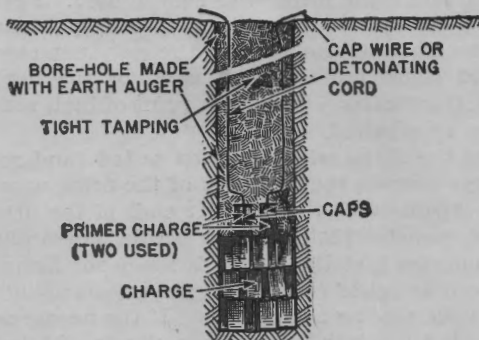

FIGURE 103.—Bore hole loaded to blow crater.
(2) After the firing wire has been tested (and repaired, if necessary) connect the free ends of the firing wire to the cap wires. Again touch the exploder ends of the firing wire to the galvanometer posts. If the needle moves along the scale, it indicates that the circuit is ready for firing if due care has been exercised to insure against shortcircuiting the cap wires while placing the charges. If the needle does not move, there is a break in the cap-wire circuit. If the needle moves only slightly, there is a place of high resistance, such as a bad joint, in the cap-wire circuit. If the caps are placed in parallel, each cap must be tested separately. Each series in a parallel series circuit must also be tested separately.
a. Crater.—Figure 103 illustrates how to prepare a bore-hole to blow a crater with TNT. The depth of the hole is determined by the officer in charge. In place of the TNT blocks, one or more ammonium nitrate cratering charges may be used.